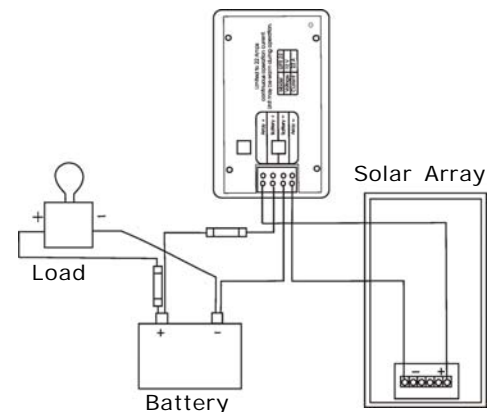
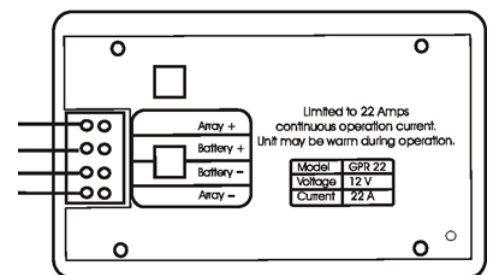

Figure 4 GPR-22 regulator wiring schematic
Figure 5
- Wire the regulator according to the wiring schematic shown in **Figure 4** and **Figure 5**. Tighten all connections.